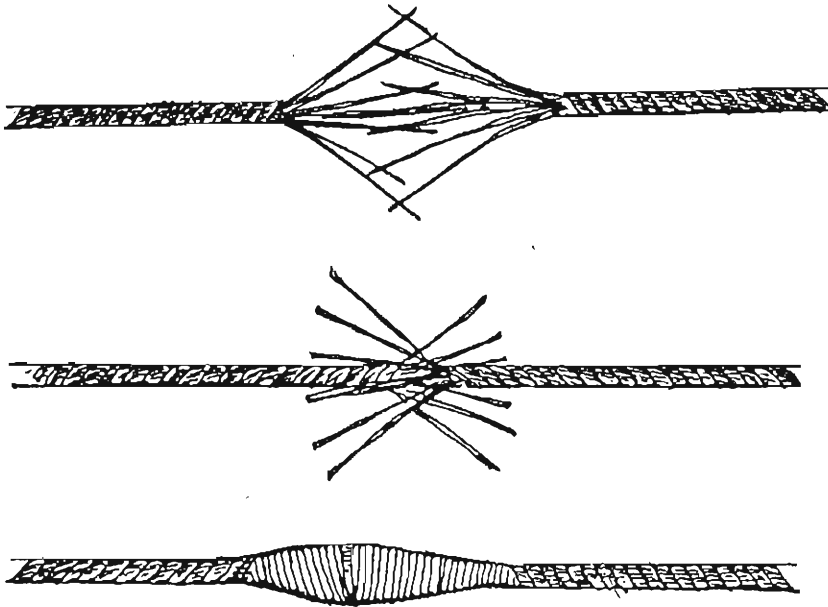

Figure 6.6: Method of Joining Wire Ends
- During installation of transmission lines, the ends of two wires can be connected using the following procedure (see also Figure 6.6).